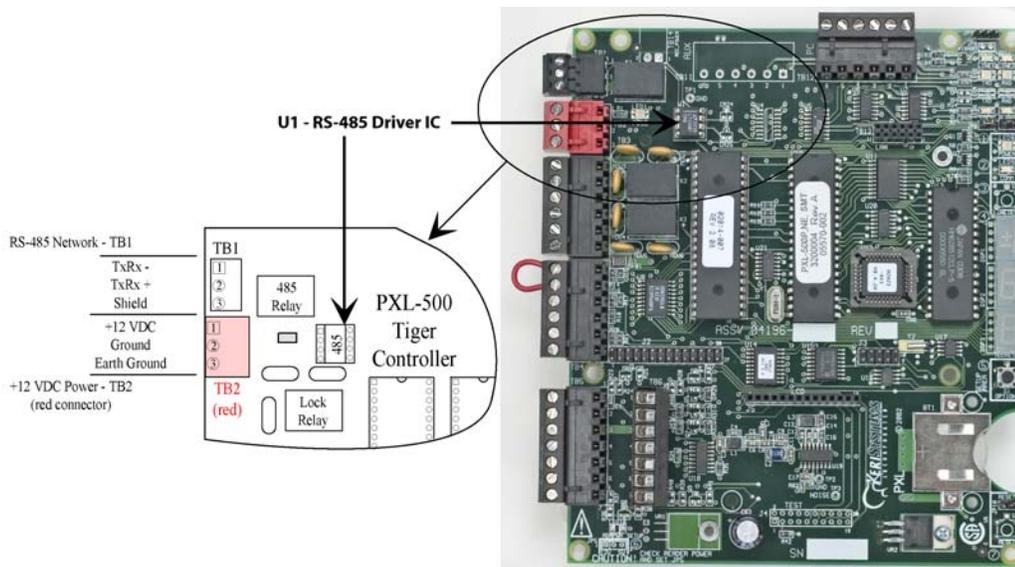

Figure 1: TB1, TB2, U1
7. Remove the TB1/RS-485 connector from the controller. For the following steps, refer to Figure 1 on page 1.